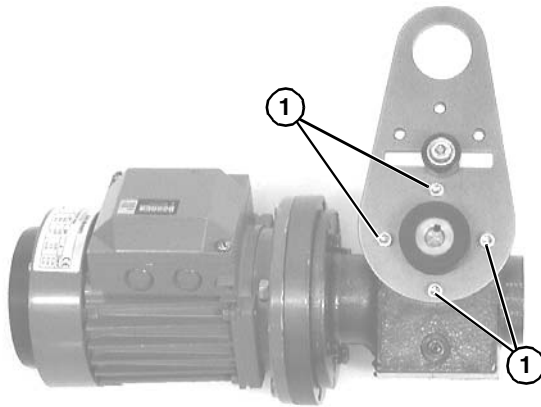

Figure 6
- If required, change gearmotor position by removing four (4) screws (**Figure 6, item 1**). Rotate gearmotor to other position and replace screws. Tighten to 103 in-lb (12 Nm).